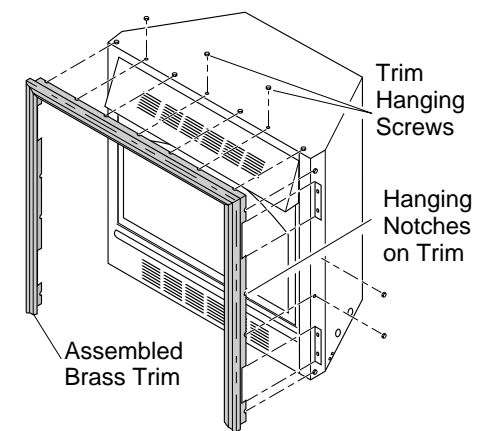

Figure 6 - Attaching Brass Trim to Fireplace
8. Tighten trim hanging screws (#10 x 6.25 shoulder) into holes in cabinets. Place the assembled trim onto fireplace cabinet. Align hanging notches on trim with hanging screws on side of fireplace (see Figure 6). Push trim firmly into place, sliding hanging notches over hanging screws.
10. Install brass trim after final finishing and/or painting of wall (see Figure 6, page 7).